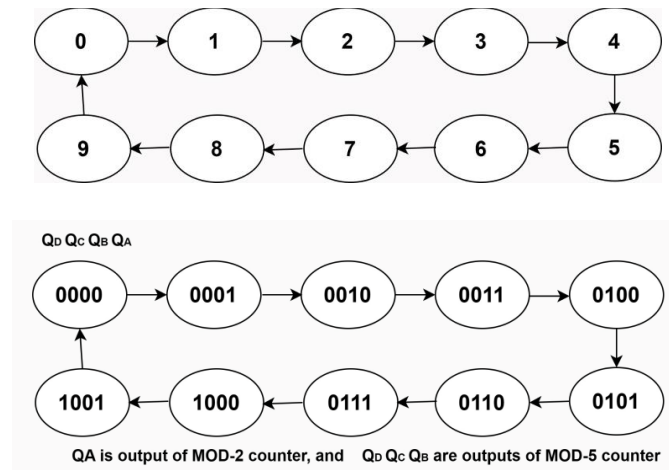

Figure 3: State diagram of MoD-10 Counter
- 1. IC 7490 BCD Decade Counter:** It is a 14 pin IC, which can output the binary numbers from 0000 to 1001. After 1001 it gets resets and again starts counting from zero, as shown in **Figure 3 & 4**. Since, IC 7490 gets reset after counting ten numbers, it is called MOD-10 or Decade Counter. This IC takes 10 clock pulses to generates BCD code corresponding to each clock pulse. The outputs QA, QB, QC and QD are four bits of the BCD code.